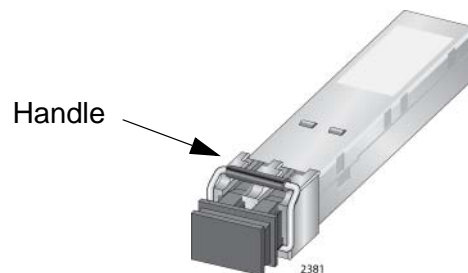

Figure 119. Handle on an SFP+ Transceiver
2. If you are installing the SFP+ transceiver in slot 1 or 3, orient it with the handle on top, as shown in Figure 119. To install it in slot 2 or 4, orient it with the handle on the bottom.